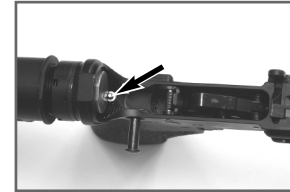

Fig. 26
**CAUTION: The buffer and spring are under considerable spring tension. Slowly remove the buffer and recoil spring (Fig. 26, 27 and 28).**
5. Depress the buffer retainer while holding the buffer (Fig. 26), and remove buffer and spring (Fig. 27).